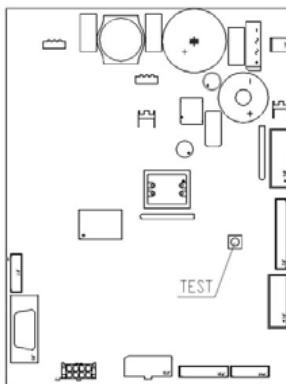

FIG. 3
- If the message "MEMORY CLEARED" appears on the display, press the button on the main board inside the box of the coin dispensing mechanism (see FIG. 3) to initialize the memory. The message "DOOR OPEN, MACHINE IN MAINTENANCE MODE" appears on the display. The machine automatically starts a self-test. If no errors are identified, the column moves into the starting position and the machine is ready for use.
When the machine is switched on for the first time the message 'INIT' and then "memory cleared" will appear on the display. This message indicates that the memory has no stored data, or that the data in memory are corrupted. The machine is in the same condition as it is after the "erase memory" command has been executed or the memory has failed. The memory may be automatically reset to its pre-defined default values listed in the programming instructions by pressing the pushbutton FIG. 3 on the main board mounted in the coin mechanism compartment.
It is also possible to make a function test of the machine. Press the push-button test FIG. 3 mounted on the main board. The message "**FREE VEND**" will appear on the display if everything is OK, otherwise the selection "out of service" will be displayed. To restore the selection press the corresponding push-button. If the problem continues, the message indicating the type of anomaly will appear. Test vends can be made on any selection and on the display will appear the messages to indicate that if during the working there has happened an anomaly. To return to normal operating mode press again the push-button FIG. 3 placed on the main board, **or if no action has been carried out within a 1 minute period the machine will automatically exit from "FREE VEND" and revert to Standby mode as a safety feature.**